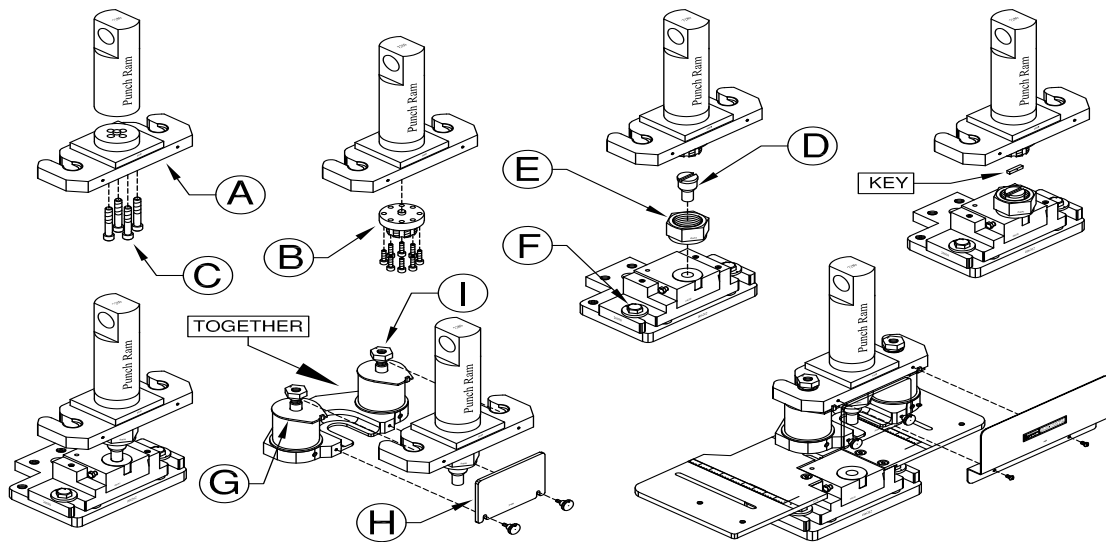

FIGURE 28
**REFER TO FIGURE 28.**
- 6. Remove the punch holder (B) from the end of the ram.**
- 7. Disassemble the urethane stripper by removing the two retaining nuts (I).**
- 8. Install the stripper mounting plate (A) and the punch holder (B) to the ram, with the bolts provided.**